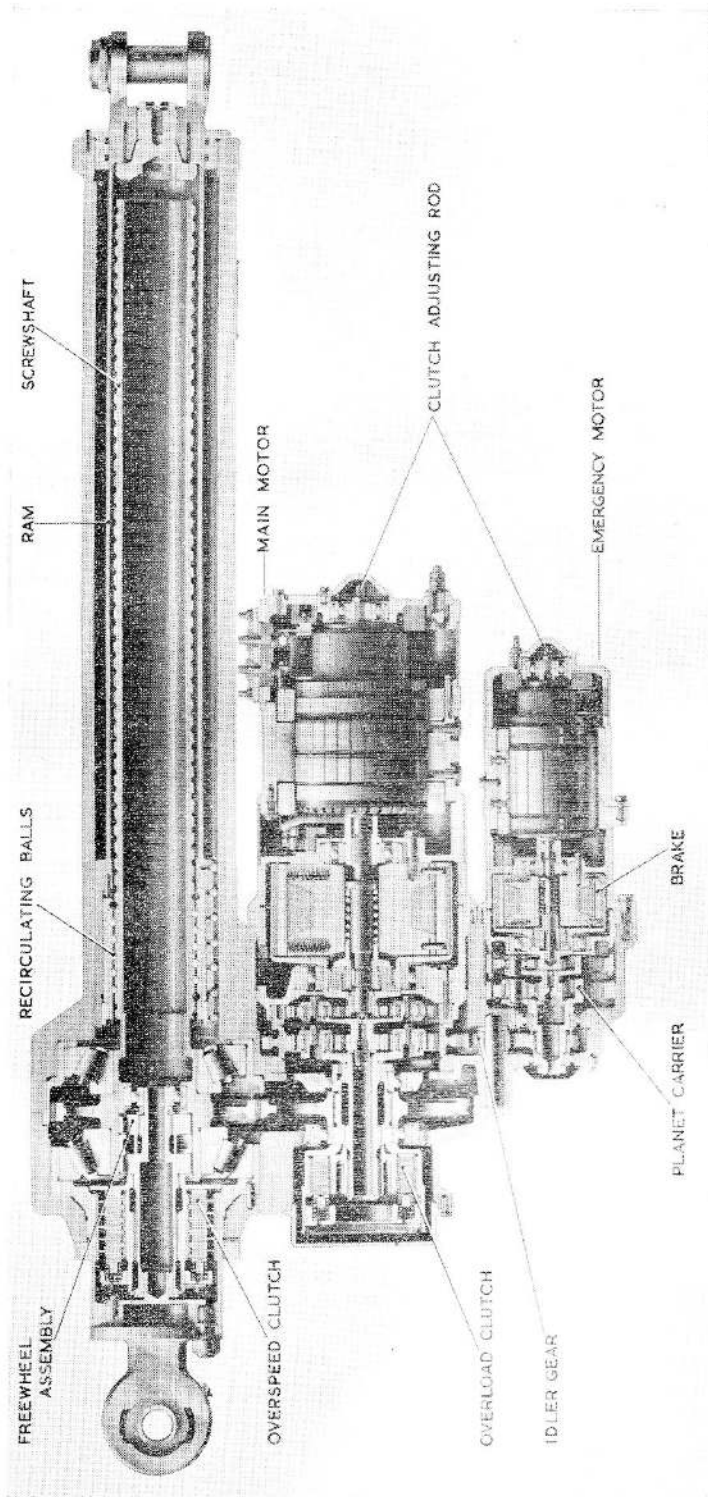

Fig. 2. Sectional view
2. A typical actuator in the series is shown in fig. 1, with a sectional view in fig. 2. These actuators have their motors offset from, and parallel to, the ram axis. Each machine consists of a main motor, emergency motor and the ram and screwshaft assembly.
11. A high efficiency thread of the recirculating ball type is employed (*fig. 2*), torque reaction between the ram and the screwshaft being absorbed by the three sets of steel balls located in the ram and running in steel guides in the ram housing. The screwshaft is supported at its root by taper roller bearings. An eye-bolt is splined to the ram and is secured by a tension pin.